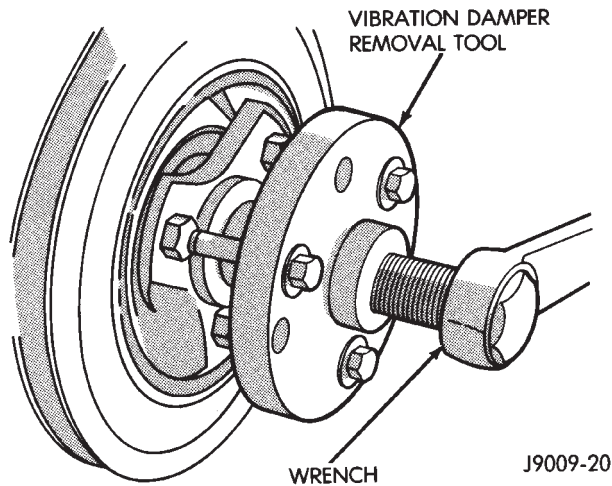

Fig. 40 Vibration Damper Removal Tool 7697
- (1) Disconnect negative cable from battery.
- (2) Remove the serpentine drive belt and fan shroud.
- (3) Remove the vibration damper retaining bolt and washer.
- (4) Use Vibration Damper Removal Tool 7697 to remove the damper from the crankshaft (Fig. 40).